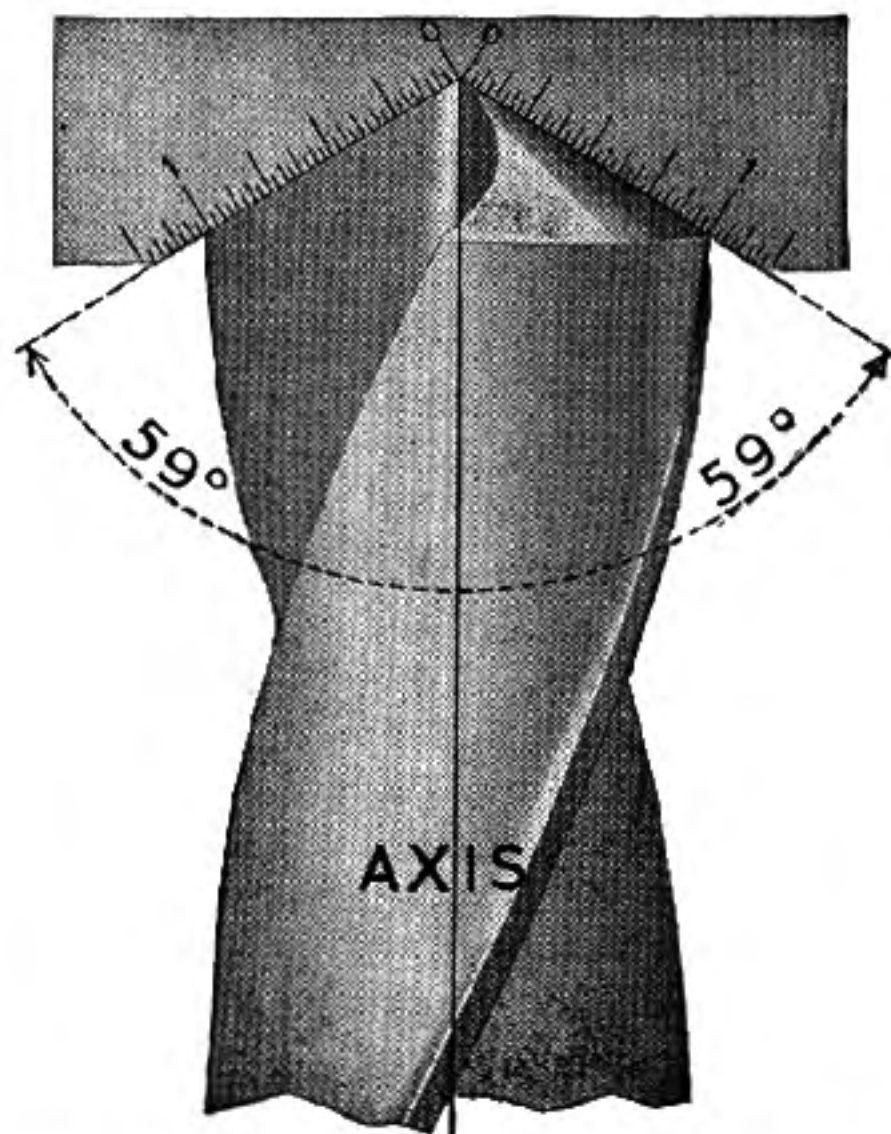

Fig. 32
**Drills and Drilling** — In the armamentarium of the metal worker's tools, none has a more definite or important place than the twist drill. One-half the metal is cut away in the flutes, but notwithstanding this, the cutting surface, in proportion to its cross-sectional area, is large. This is made possible by the fact that the walls through which it passes act as a support, and the feed pressure forces the point into a cone-shaped hole which centers it. Drills should be ground so as to cut to actual diameter and be capable of operation with as little power or pressure as possible. To have one cut to correct size, both lips should be of the same angle. A great convenience is to buy a standard drill gauge (shown in Figure 32). These are